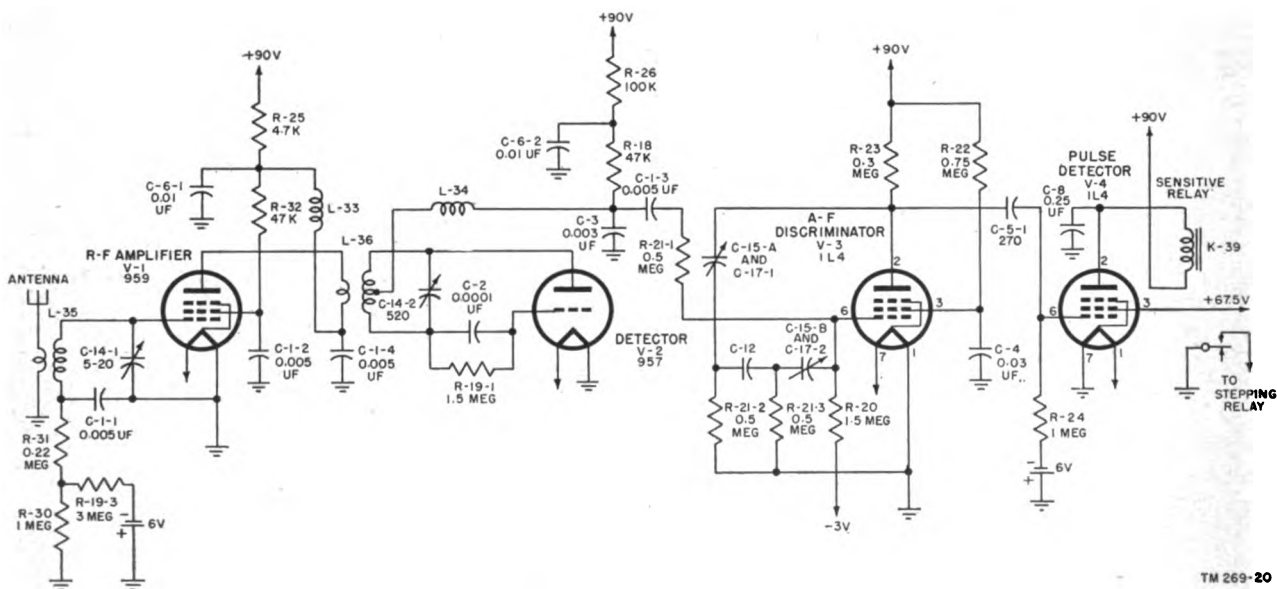

Figure 21. Receiver section, schematic diagram.
a series of current pulses (E) through a relay (K-39, fig. 21) winding.
c. The pulse selector circuit is composed of a reset tube, firing tube, and a three-gang stepping switch (called a selector switch). These components count and add the number of pulses (up to 10), provided that the time between pulses is less than 0.4 second. When the space between pulses is greater than 0.4 second, the reset tube operates and the selector switch mechanism is automatically reset to its starting position. This action prevents operation of the firing tube by improperly coded signals. The firing tube is normally nonconducting. When the correctly coded signals are received, this tube conducts (F) and a detonator cap is fired (G).
44. R-f Amplifier (fig. 21)
45. Detector Circuit (fig. 21)